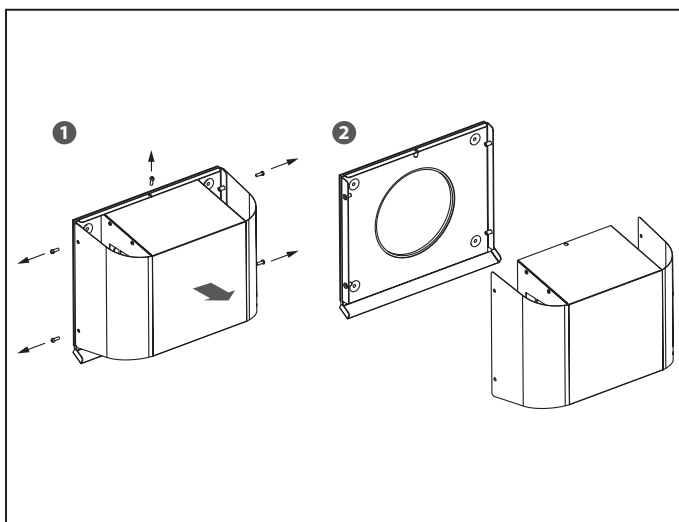

Fig. 14b
- Fig. 14b - models VENTO Ergo A50 S Pro and VENTO Ergo A50-1 S Pro. Loosen 5 screws and take off the upper part of the outer ventilation hood.